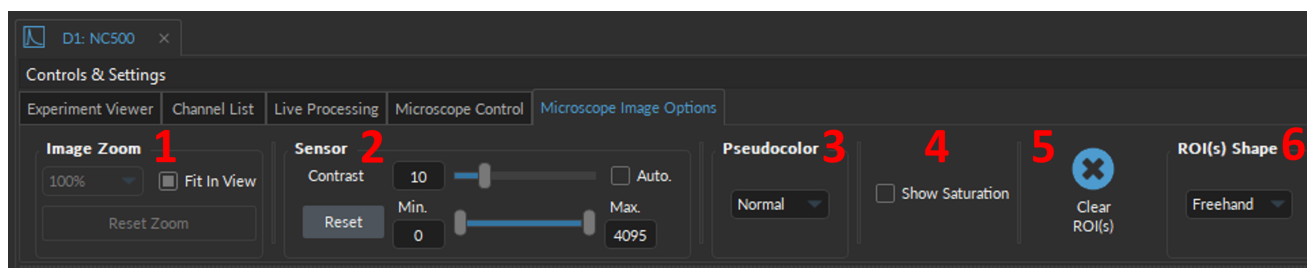

Figure 11.96: Microscope Image Options Tab
1. The **Image Zoom** (Fig. 11.96, 1) includes the following:
2. The **Sensor** (Fig. 11.96, 2) is used to adjust the contrast on a given sensor.
3. The **Pseudocolor** drop-down (Fig. 11.96, 3) maps the pixels values to a pseudocolor range (of 13 possible options) to facilitate viewing.
4. The **Show Saturation** checkbox (Fig. 11.96, 4) is available when using the **Auto Contrast** setting. When enabled, saturation pixels will turn red. This function is only available if no pseudocolor is selected (Pseudocolor set to *Normal*).
5. The **Clear ROI(s)** button (Fig. 11.96, 5) will delete all drawn regions of interest within the **Microscope View**. Note that unless the ROI(s) were previously saved, these ROI(s) cannot be recuperated.
6. The **ROI(s) Shape** drop-down (Fig. 11.96, 6) sets the geometry of the ROI, which can be added at any point, even when not under the **ROI(s) tab** and in **Live** mode (but not when using **Record** mode). Five **ROI(s) Shapes** are available: *Freehand*, *Circle*, *Rectangle*, *Square*, and *Polygon* (Fig. 11.97, 1-5). Multiple shapes can be used within the **Microscope View** simultaneously.